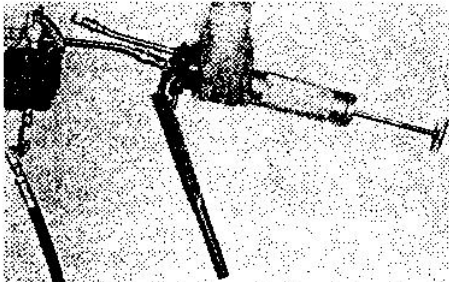

FIG. 3 - Filling 6594 Gun by means of a separate lubricant pump.
The 6594 Gun may be filled by two methods: (1) By means of a separate lubricant pump (Fig. 3); and (2) by suction (Fig. 4).
- c. Hold the gun so that the lever arm falls into position when the piston is pulled out to a full stop (Fig. 3).
- d. Connect control valve of lubricant pump to hydraulic fitting on cylinder head of lever gun (Fig. 3).